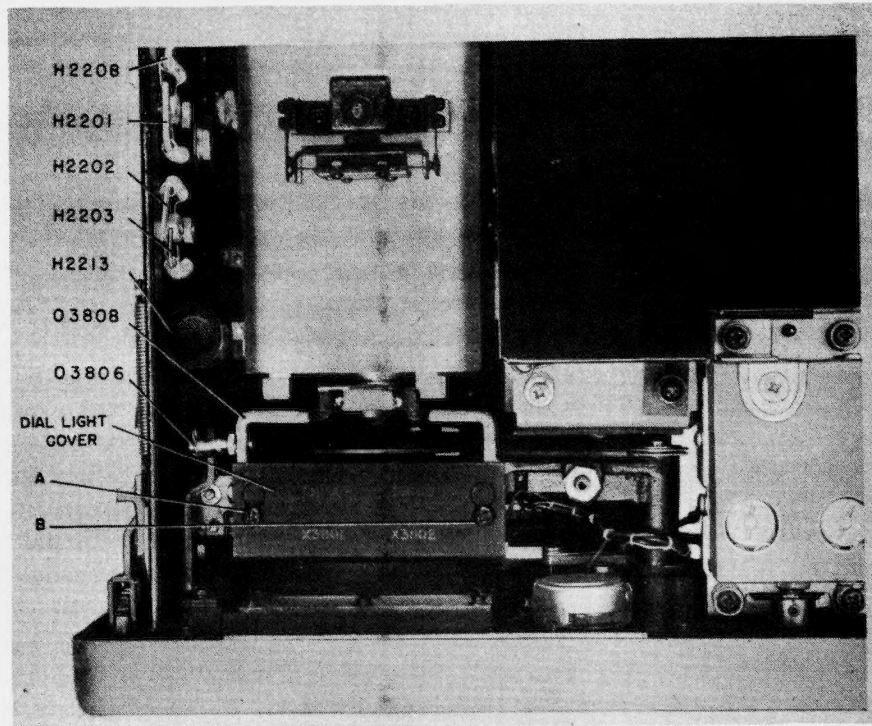

Figure 7-18. Lens-Arm Assembly and Dial Light Compartment, Top View
(a) **PILOT LIGHT AND CRYSTALS.** - First remove the pilot light cover or the cover of the assembly in which the crystal lies, then remove the bulb or crystal by use of the rubber plunger, H660, located near the Allen wrenches on the left inner wall of the chassis (see figure 7-18). This plunger has an opening at each end. Place the end having the proper size opening over the crystal or bulb and press on the plunger until it grips the crystal or bulb. Then remove the bulb or crystal by pulling or twisting the plunger as necessary.
1. Pull the receiver chassis out to servicing position. Behind the tuning dial, accessible from the upper side of the chassis, is the cover of the dial light compartment (marked I3801, I3802, X3801, X3802). This is shown in figure 7-18.
2. Loosen the two captive screws (A and B of figure 7-18) which retain the dial light cover. Slide the cover forward so that its two keyhole-shaped openings clear the captive screws, then lift off the cover.
(b) On the top side of the chassis, unhook the spring O3806 (figure 7-18) from the left side of the lens arm assembly, O3808, and tie a 6-inch piece of string from the end of the spring to the bracket supporting the lens arm assembly, to prevent the spring from falling into the center of the chassis. Then swing the lens arm assembly open, and tie a piece of string from the end of the lens arm assembly to the right-hand front handle of the chassis.
(6) ALIGNMENT OF THE TUNING DIAL. - (See figures 7-18 to 7-21.)